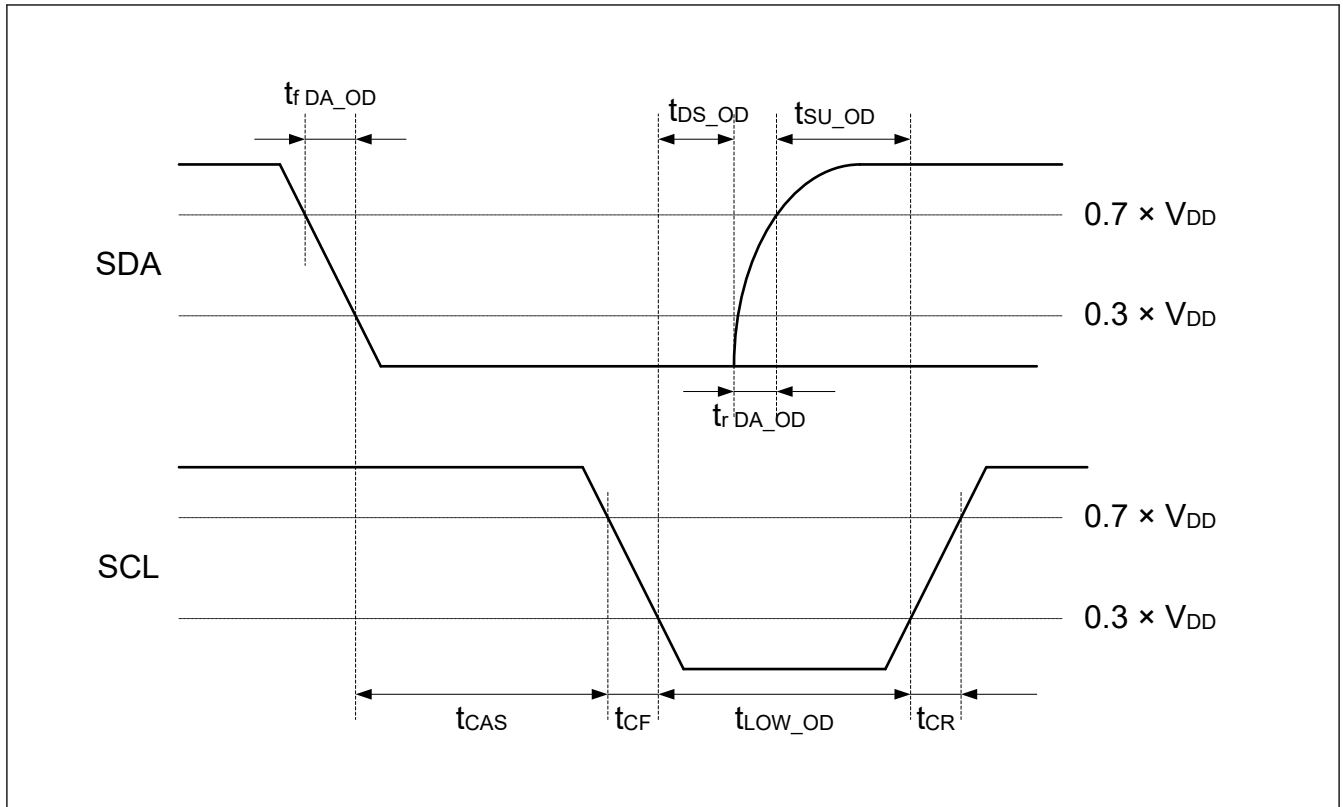

Figure 2.36 I3C START condition Timing
| SCL Clock Low Period | t _{LOW_OD} | Figure 2.36 | 200 | — | ns | 1, 2 |
| | t _{DIG_OD_L} | Figure 2.36 | t _{LOW_ODmin} + t _{fDA_ODmin} | — | ns | — |
| SDA Signal Fall Time | t _{fDA_OD} | Figure 2.36 | t _{CF} | 33 | ns | — |
| | | Figure 2.36 | | | | |
| Clock After START (S) Condition | t _{CAS} | Figure 2.36 | 38.4 | For ENTAS0: 1 μ | seconds | 5, 6 |